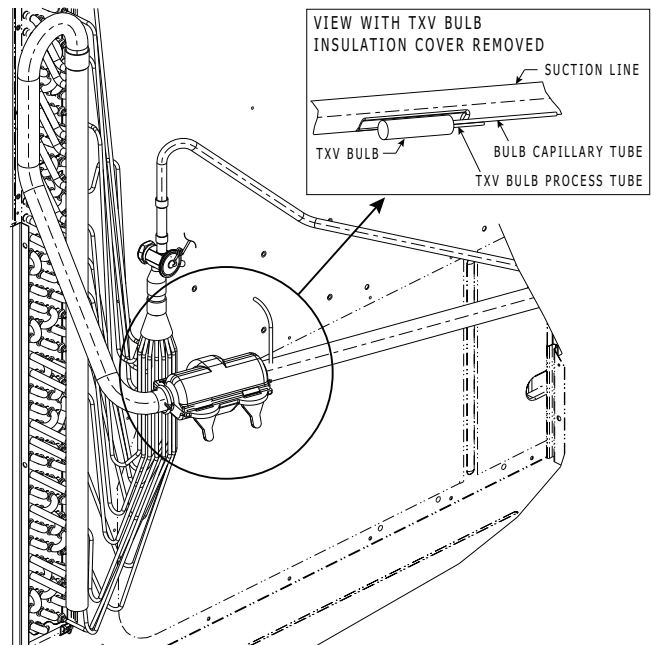

Fig. 29 — TXV Valve and Sensing Bulb Location
10. Attach TXV bulb in the same location where the original (in the sensing bulb indent) was when it was removed, using the supplied bulb clamps. See Fig. 29.